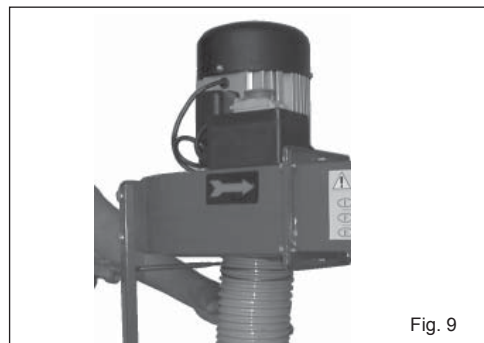

Fig. 9
7. Secure the flexible tube to the connector to mount to the escape at the outfeed of the suction fan (**Fig. 9**).